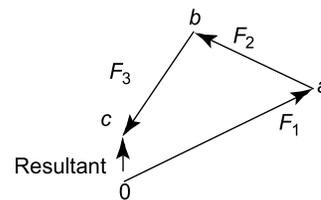

Figure 4.13
- Draw $0a$ to scale to represent force F_1 in both magnitude and direction (see Figure 4.13)
- The resultant vector is given by length $0c$ in Figure 4.13. The direction of resultant $0c$ is from where we started, i.e. point 0, to where we finished, i.e. point c. When acting by itself, the resultant force, given by $0c$, has the same effect on the point as forces F_1, F_2 and F_3 have when acting together. The resulting vector diagram of Figure 4.13 is called the **polygon of forces**.